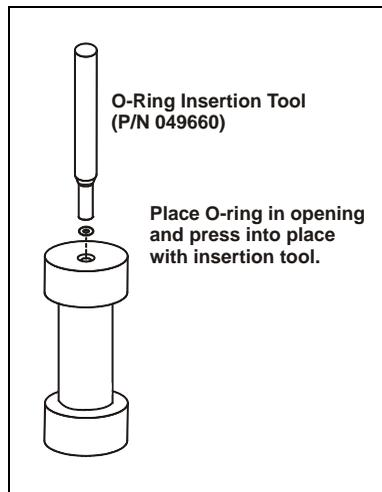

Figure 3-8. Installing a Cell End Cap O-Ring
- If an O-ring is *missing*, place a new O-ring over the opening in the end of the cell end cap. Press the O-ring into place, using the O-ring insertion tool (see Figure 3-8).
3. Place a new O-ring over the opening in the end of the cell end cap. Press the O-ring into place, using the O-ring insertion tool (P/N 049660) provided in the Dionex ASE 150 Ship Kit (P/N 066399) (see Figure 3-8).